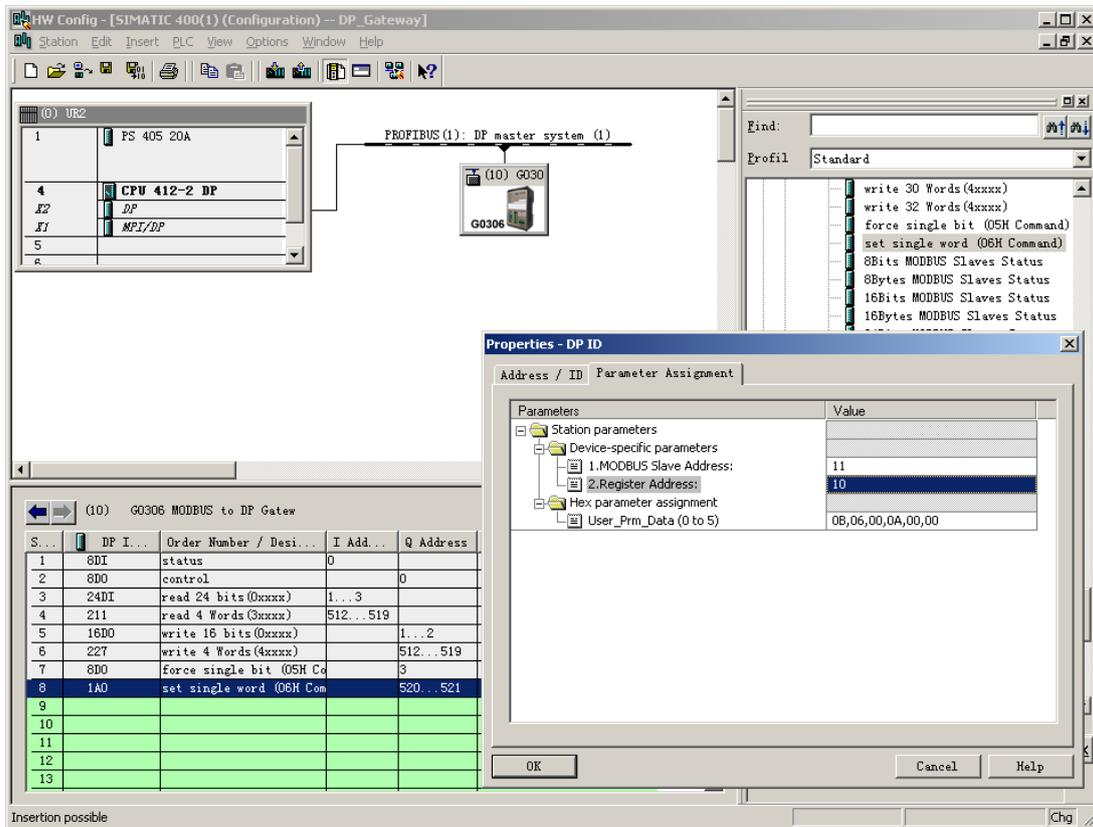

Figure 32 Configure User Parameters of “set single word (06H Command)” Module
**b) Configure user parameters of “set single word (06H Command)” module, shown in Figure 32:**
"1.MODBUS Slave Address:" ⇒Type MODBUS slave address 11, shown in Figure 32.
"2. Register Address:" ⇒Type register address 40011 of register 4xxxx to be written, set address as 10⇒"OK", shown in Figure 32.